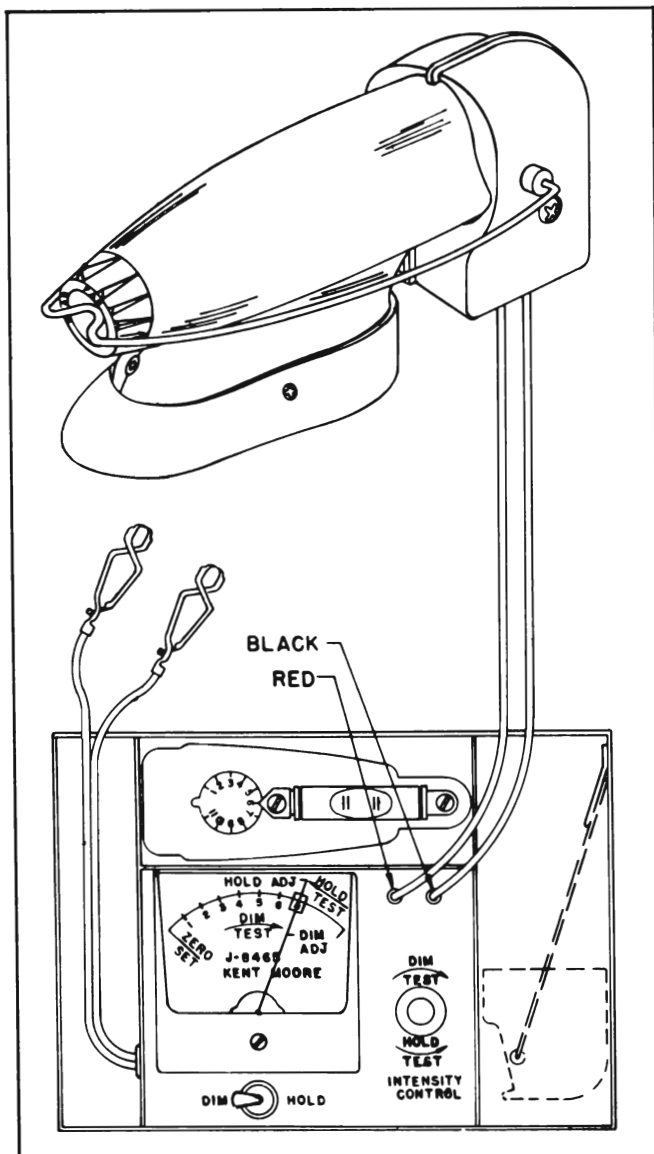

Figure 11-137—Tester J-8465
Tester J-8465, made by Kent-Moore, is required for checking or adjusting the Guide-Matic. The tester includes a vertical aiming device No. 6 and a sensitivity test lamp. See Figure 11-137.
- (1) Set driver control to detent position.
- (2) Install tester lamp. (Use Kent-Moore Model J-8465.) See Figure 11-137.
- (3) Start engine and operate at fast idle while making adjustments.
- (4) Turn headlamps on and wait at least 5 minutes for amplifier unit to stabilize. Place foot switch in automatic position.
- (5) Turn zero corrector on face of meter until meter pointer is on "ZERO SET" line. See Figure 11-137.
(6) Turn Tester "INTENSITY CONTROL" counterclockwise.
(7) Connect battery leads of Guide-Matic tester to battery terminals.
(1) Rotate tester "INTENSITY CONTROL" completely counterclockwise.
(2) Turn "DIM-HOLD" switch to "HOLD" position and then back to "DIM" position. Headlamp should be on upper beam.
(3) Turn tester "INTENSITY CONTROL" clockwise slowly just to point where headlamps switch to lower beam. The meter pointer should now read in the black "DIM ADJ." range on the meter scale. See Figure 11-137. If not, proceed to the hold and dim sensitivity adjustments.
(1) Turn "INTENSITY CONTROL" all the way clockwise.
(2) Turn "DIM-HOLD" switch to "DIM" position and back to "HOLD" position to obtain a lower beam.
(3) Slowly turn "INTENSITY CONTROL" counterclockwise just to the point where headlamps switch to upper beam. The meter pointer should now read in the green "HOLD ADJ." range on the meter scale. See Figure 11-137. If not, proceed to the hold and dim sensitivity adjustments.
(5) Adjust "INTENSITY CONTROL" slowly counterclockwise until meter pointer is on "HOLD ADJ." line. See Figure 11-137.
(6) Turn amplifier hold control slowly counterclockwise just to the point where headlamps switch to upper beam. Do not go beyond this setting.
(7) Recheck sensitivity as shown in steps (1) through (3) under Hold Sensivity Test.
(8) Reinstall protective button plug and hinge cover.
(1) Rotate amplifier dim control completely counterclockwise. See Figure 11-137.
(2) Momentarily turn "DIM-HOLD" switch to "HOLD" then back to "DIM" position to obtain upper beam. See Figure 11-137.
(3) Adjust tester "INTENSITY CONTROL" until meter pointer is at "DIM ADJ." line. See Figure 11-137.